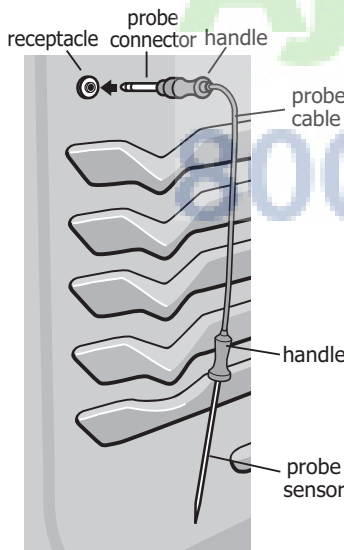

Figure 9: Using the probe
Do not use kitchen utensils to pull on the probe cable or handles. Always insert and remove the probe using the provided handles, as shown in Figure 9, and always use a pot holder to protect hands from possible burns.
2. Plug the connector end of the probe all the way into the probe receptacle while the oven is still cool. The receptacle is located on the upper left front oven cavity wall (See Figure 9).